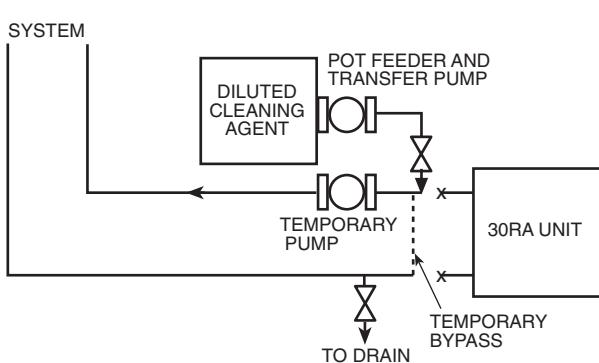

Fig. 14 — Typical Set Up for Cleaning Process
1. Install a temporary bypass around the chiller to avoid circulating dirty water and particulates into the pump package and chiller during the flush. Use a temporary circulating pump during the cleaning process. Also, be sure that there is capability to fully drain the system after cleaning. (See Fig 14.)